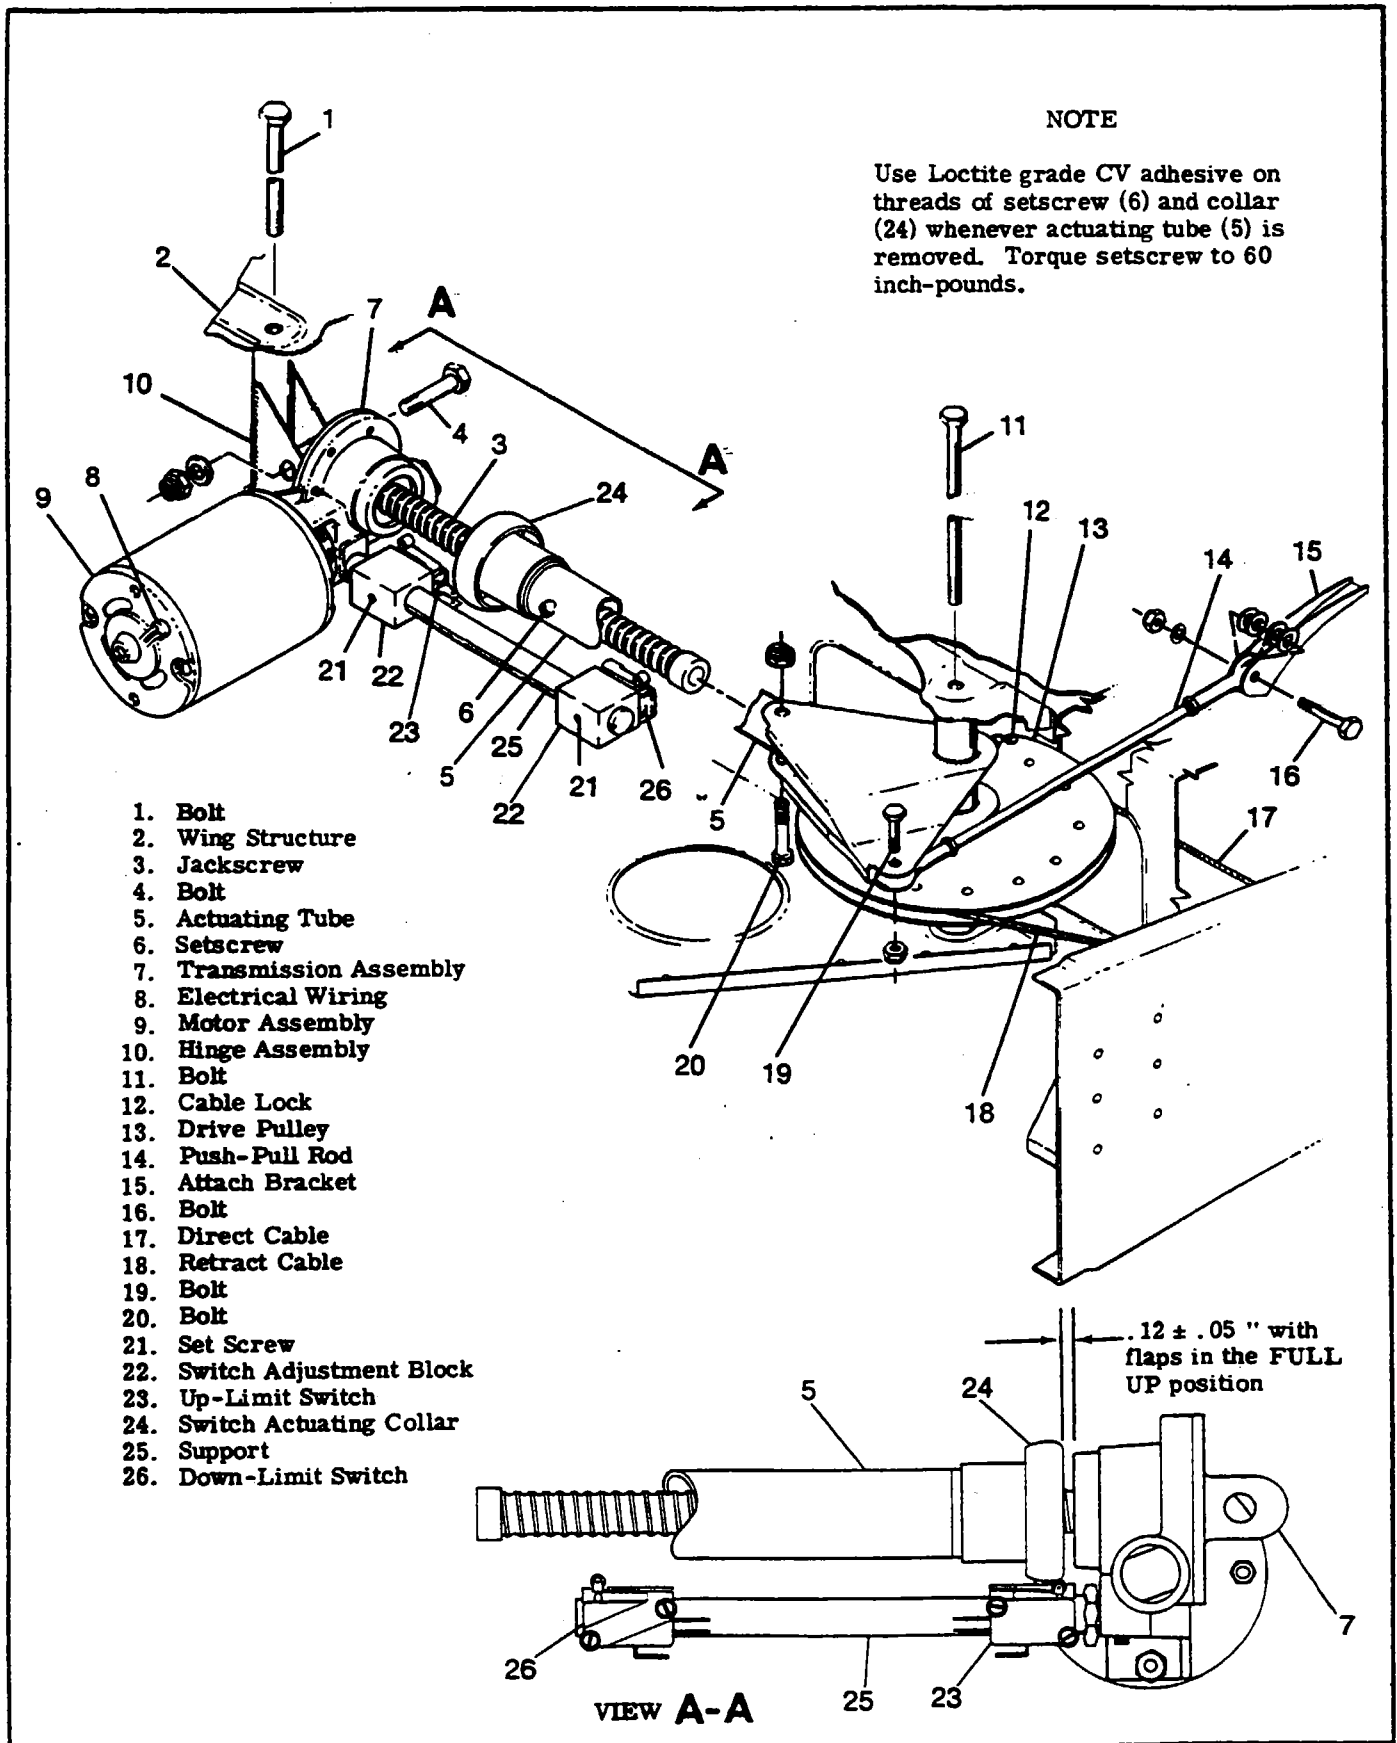

Figure 7-2. Flap Motor and Transmission Installation
7-6. REMOVAL AND INSTALLATION (See figure 7-2.)
7-8. DRIVE PULLEYS. (See figure 7-2.)
- d. (See figure 7-2.) Disconnect push-pull rods (14) at drive pulleys (13) in both wings and lower RIGHT flap gently.
- e. Disconnect actuating tube (5) from drive pulley (13).
g. (See figure 7-2.) Screw actuating tube (5) IN toward transmission (7) by hand to $.12 \pm .05$ inches between switch actuating collar (24) and transmission as illustrated in View A-A.
h. Loosen setscrew (6) securing actuating tube (5) to switch actuating collar (24) and hold collar to maintain $.12 \pm .05$ inch while holding RIGHT flap in the full UP position and adjust actuating tube (5) IN or OUT, as necessary to align with attachment hole in drive pulley (13).
i. Apply Loctite grade CV sealant (or equivalent) to threads of setscrew (6) and torque to 60 inch-pounds.